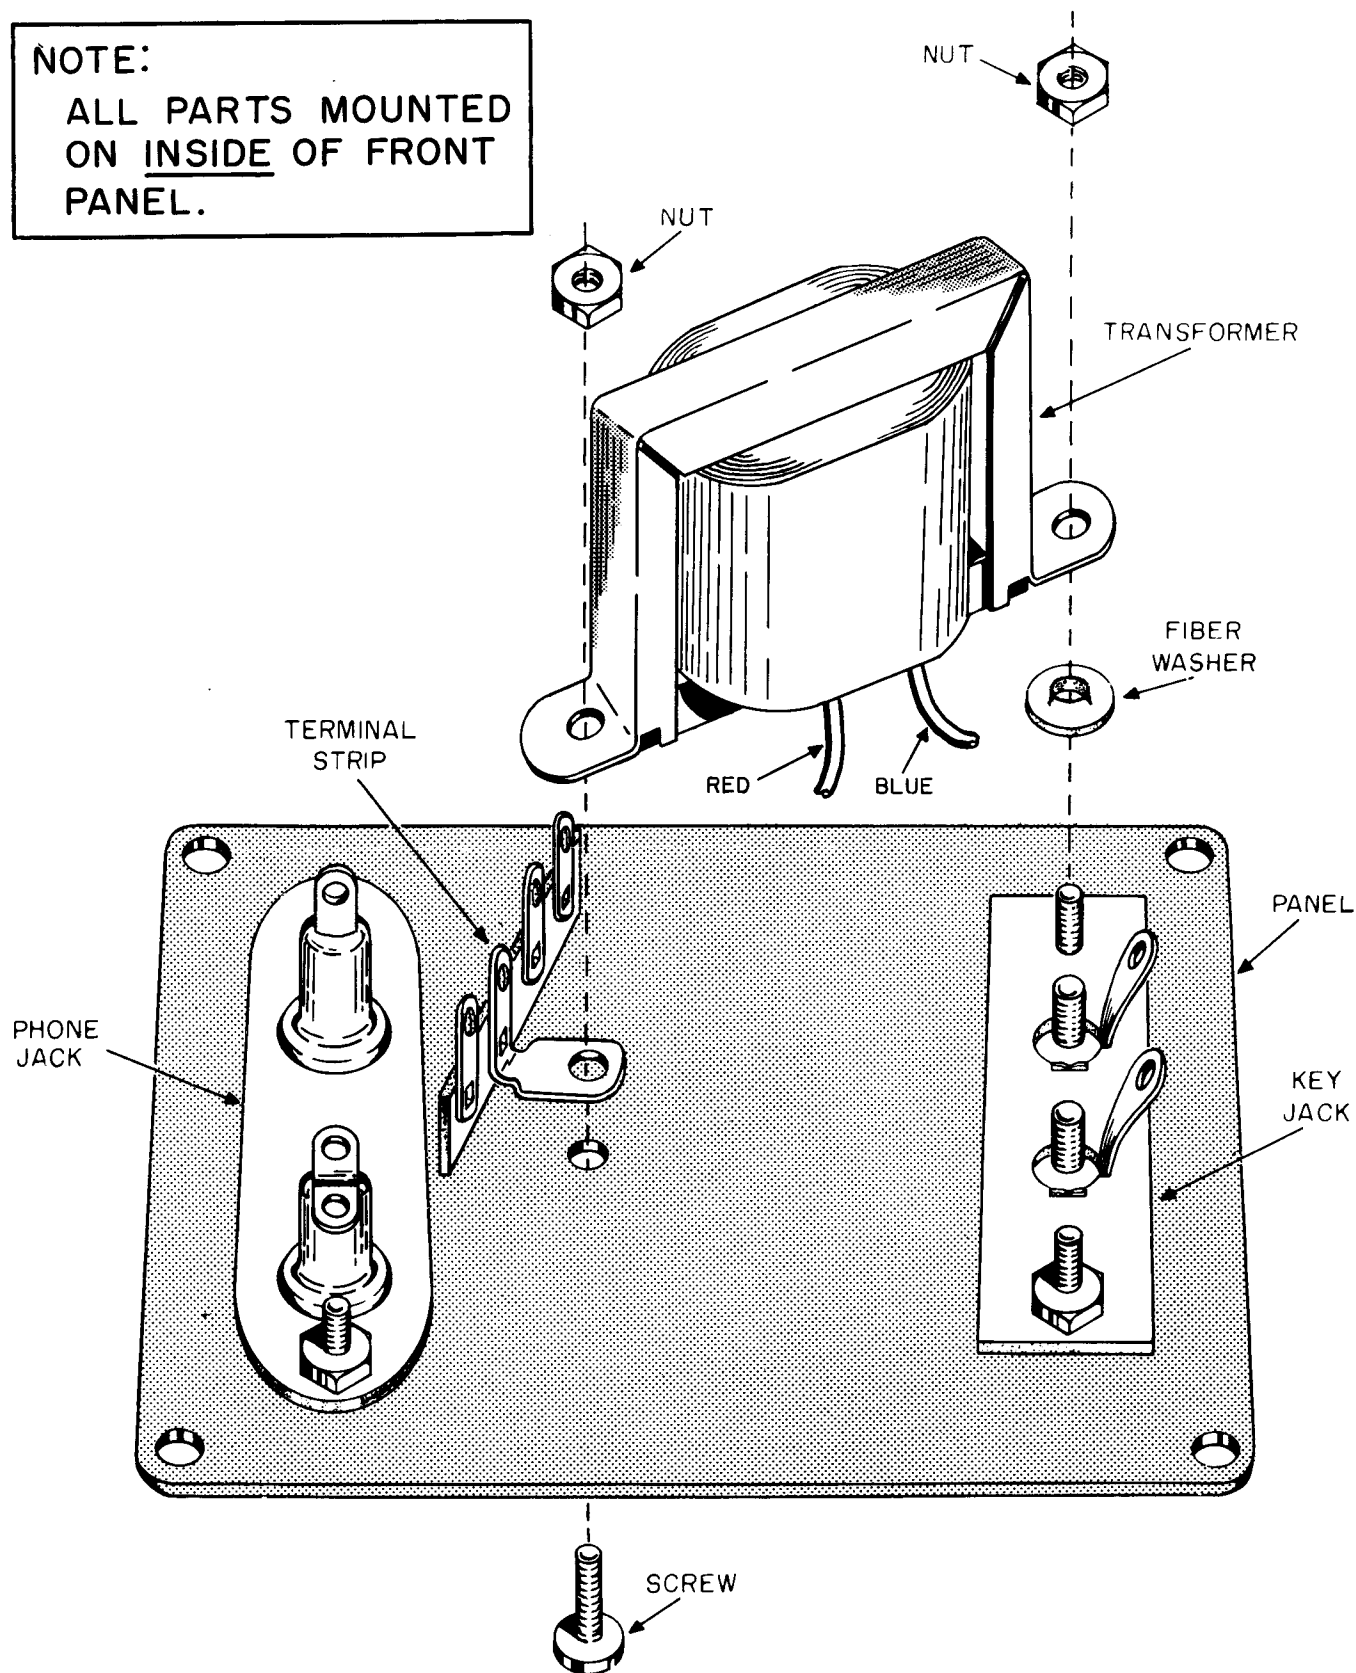

FIGURE 1. HOW TO MOUNT THE PARTS ON THE PANEL
REFER TO FIGURE 1.
- ✕ There is a screw hole on each side of the rectangular hole. From the front of the panel insert a ⅜"-long screw into the hole directly above the words MADE IN U.S.A. Do not put a screw in the other hole yet. On the rear of the panel mount the key jack on this screw with a nut so that the terminals are in the position shown in Figure 1.